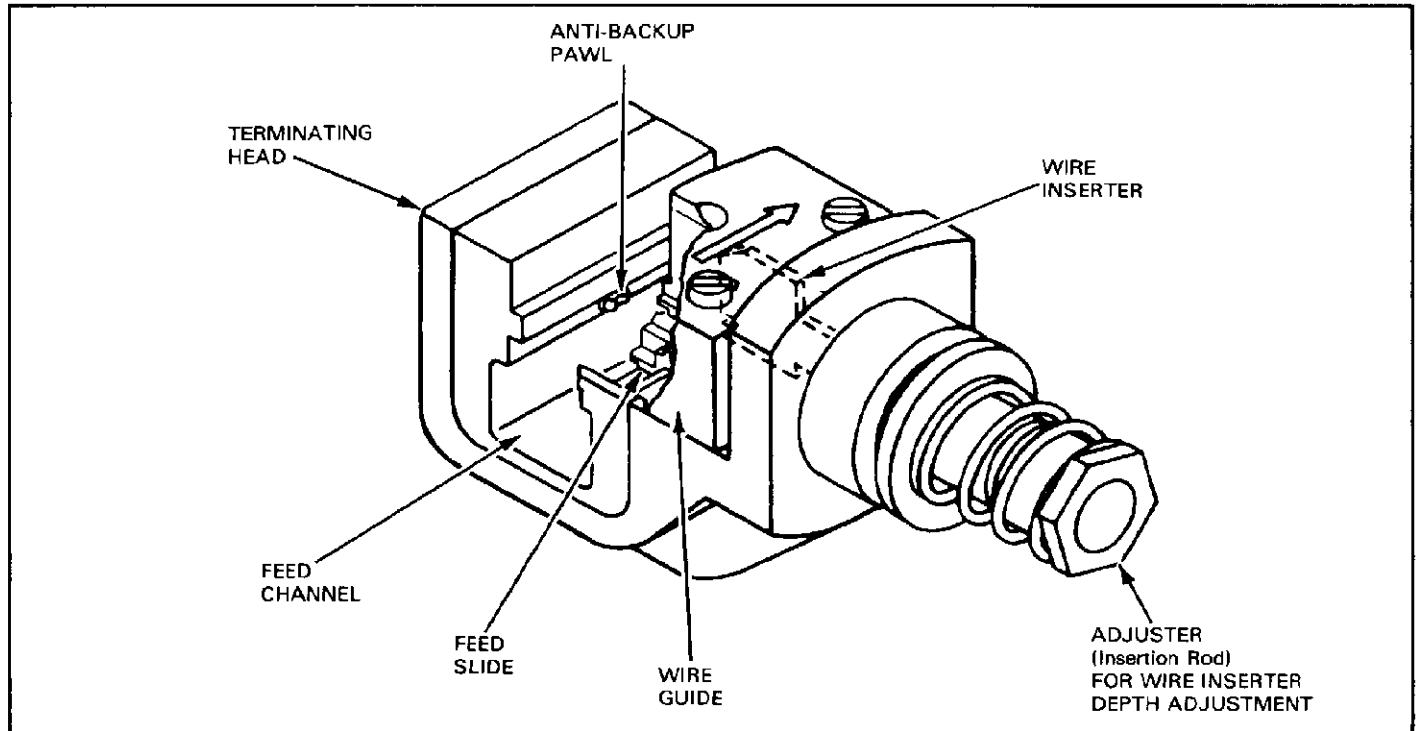

Fig. 1
This instruction sheet (IS) covers operation and maintenance of AMP Terminating Head 58063-2 which is designed to terminate wires in AMPLIMITE HDE-20 Metal Shell connectors and HDE-20 All Plastic connectors. See Figure 1. Read these instructions thoroughly before using the head.
After the head is inserted into any of the tooling mentioned above, it serves as a guide and support for the connector during termination. Features of the head (see Figure 1) and their functions are as follows:
inserted into the head, or if it is too loose in the head, loosen the two screws on the wire guide (see Figure 1) and adjust the wire guide until the connector fits properly in the head.